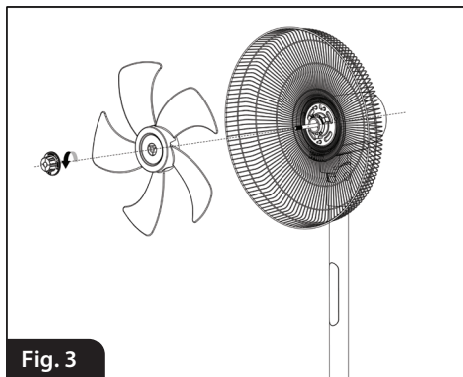

Fig. 3
5. Install the propeller (3) carefully on the motor pin and screw the protection nut (2) counterclockwise (Fig. 3).